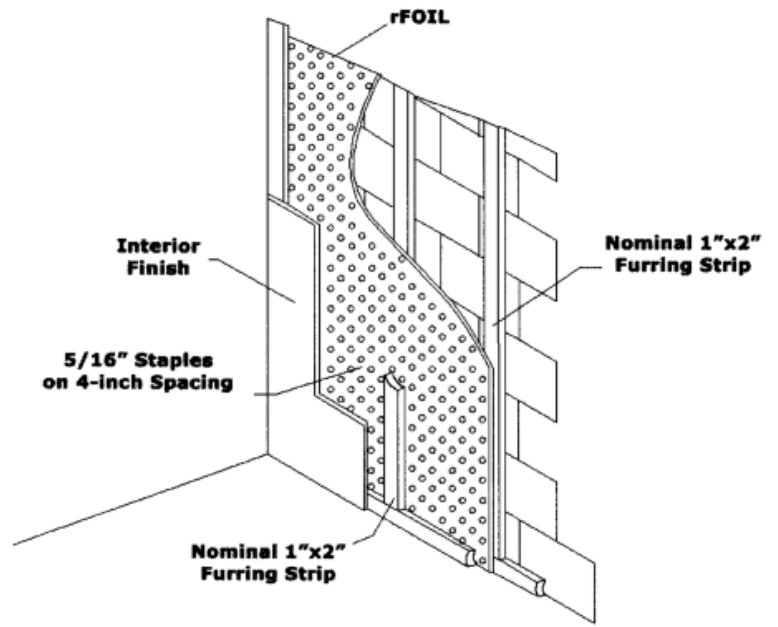

FIGURE 3—DOUBLE FURRED BLOCK WALL APPLICATION
4.1.2.3 Furring Strip Block Wall Application: The block wall assembly consists of nominal 1-by-2 furring strips attached vertically at a maximum of 16 inches (406 mm) on center to minimum 8-inch-thick (203 mm) block wall. The insulation is installed parallel to the furring strips using fasteners noted in Section 4.1 of this report. A second layer of 1-by-2 furring strips is placed over the insulation and directly over the existing furring strips using 1 1/4-inch-long (38 mm) nails. Minimum 1/2-inch-thick (12.7 mm) gypsum wallboard complying with ASTM C36 is attached over the furring strips in accordance with the applicable code to create two 3/4-inch (19 mm) air spaces. Inside surface-to-surface thermal resistance of the assembly is noted in Table 1 of this report. See Figure 3 of this report for an illustration of the assembly.